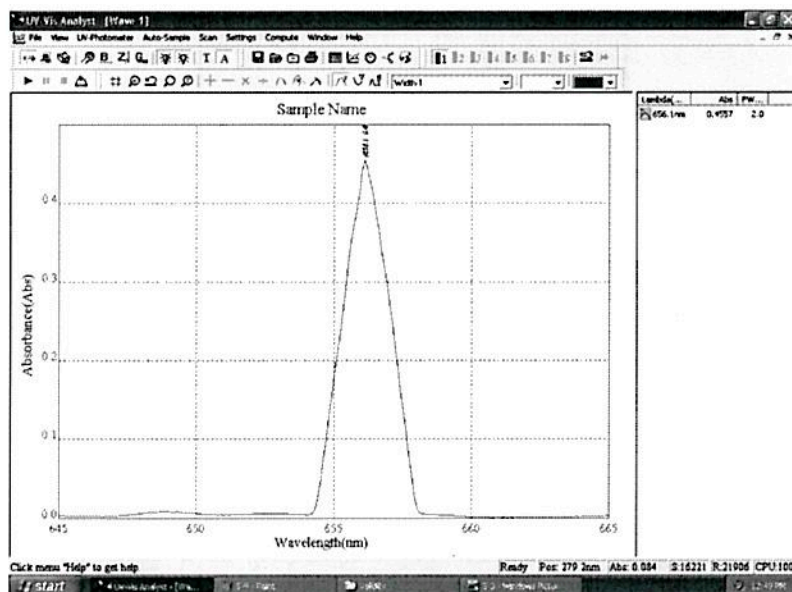

Fig. 5-11
4. Click **Scan→Service→Spectrum Slitwidth** on the Menu, it will scan from 665nm to 645nm. Click the peak and the spectrum slitwidth value list in the data table (Fig. 5-11).